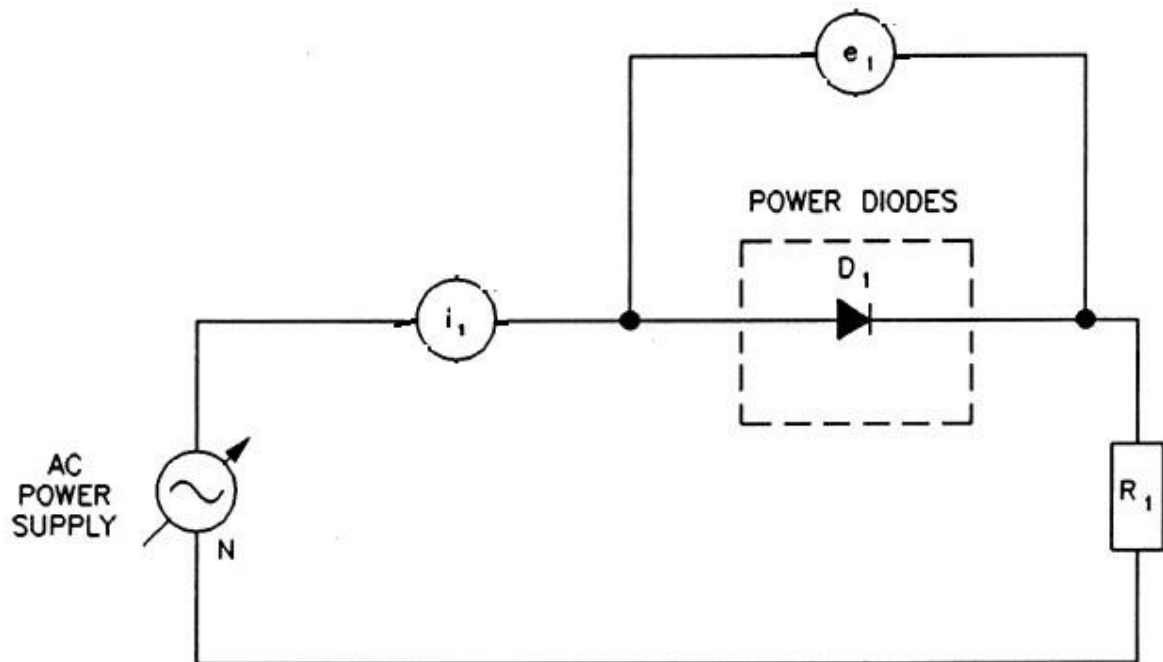

Figure 8: Circuit for observing the characteristics of a diode.
- 4.1.1. Connect the modules as shown in Figure 8.